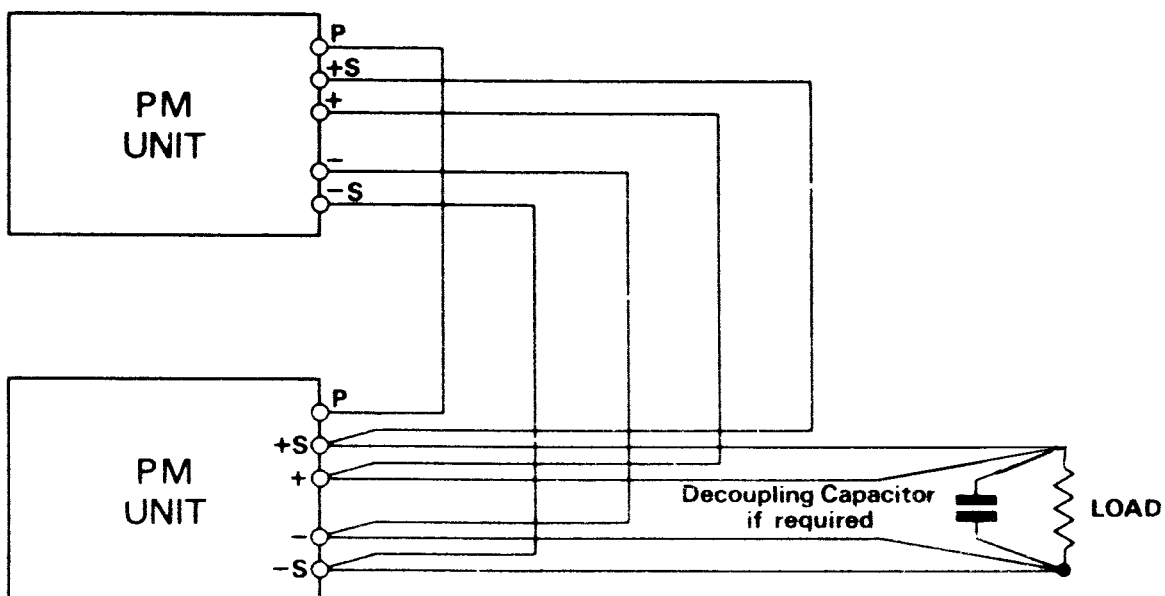

Fig. 5 Parallel Operations
3.8.1. Up to a maximum of 5 modular power units can be operated in parallel, (or 3, 20A units) and should be connected as shown in Fig. 5. For best voltage regulation, the terminal labelled 'P' on the circuit, (terminal 6 of TB3) on each unit should be returned to a common point, and four-terminal sensing used as described in Section 3.10 - but this is not essential.